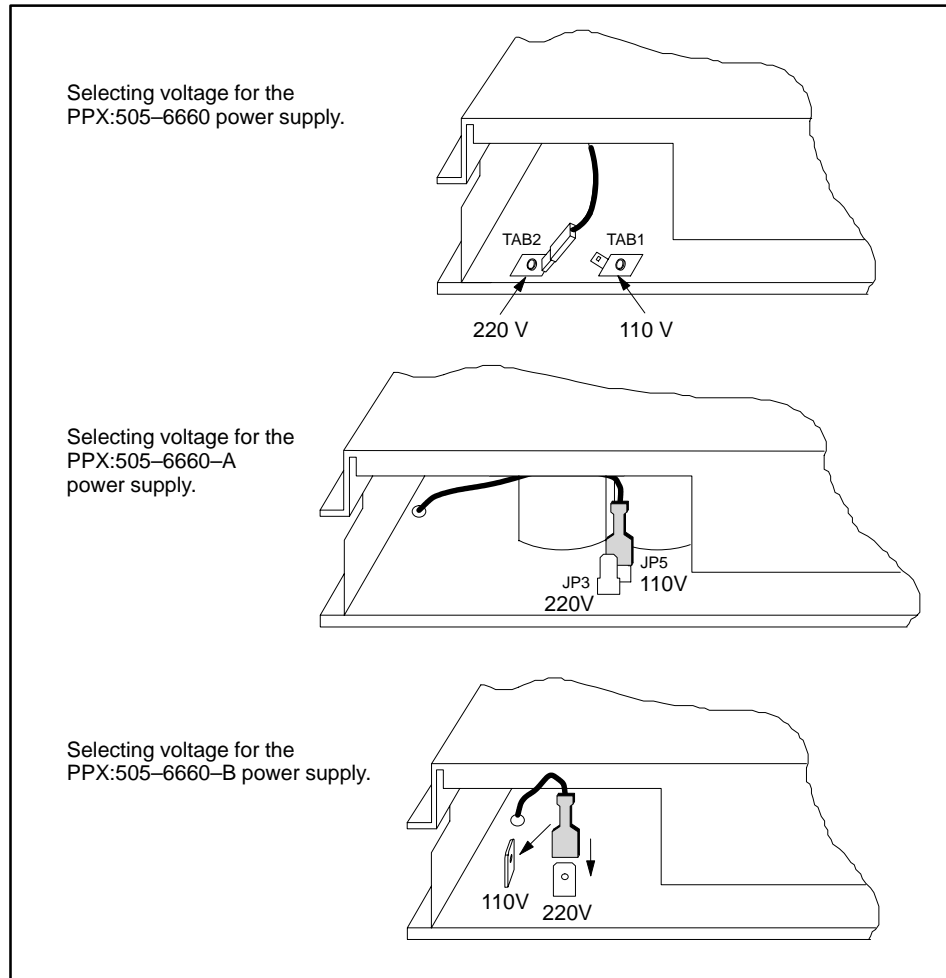

Figure 3-4 Input Voltage Selectors
2. If you are installing the PPX:505-6660 or PPX:505-6660-A or -B power supply, connect the voltage selector as shown in Figure 3-4.
The PPX:505-6660 and PPX:505-6660-A power supplies have selectable voltage. Ensure that the voltage selector is set to match the input power. See Figure 3-4 for an example of how to set the voltage selector.